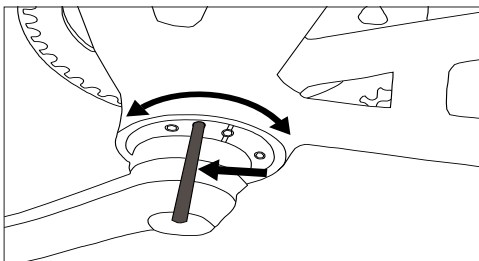

Fig. 59b: Eccentric bottom bracket adjustment
5. Push against the rod to rotate the bottom bracket (Fig. 59b). Additional leverage can be achieved with a wrench around the spindle and against the rod.